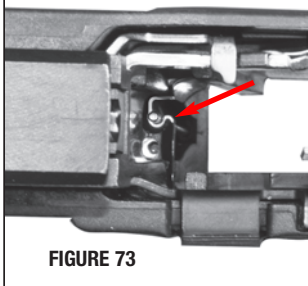

FIGURE 73
- Re-engage the magazine catch spring rod in the notch of the magazine catch (FIGURE 73).